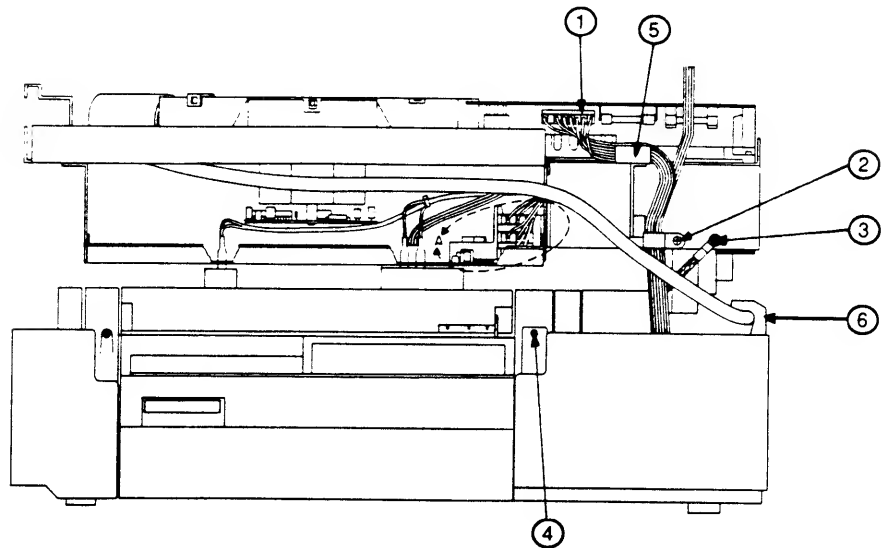

FIGURE 2-44
- c) Route the large cable under the corner of the mounting connector plate and fasten it there with a cable tie. (Figure 2-44, #6.)
14. Close the printer and connect the silver-braided ground wire to the second hole from the end of the hinged side of the printer (Figure 2-44, #3), using a short silver flanged screw.
15. Connect the cable to the DC Power Supply board (route it over the silver arm, Figure 2-44, #5).
17. Replace the extra-long black screw in the tab at the rear of the Manual Feed Assembly (Figure 2-44, #4).